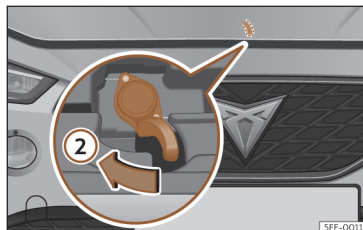

Fig. 217 Lever under the bonnet.
- To lift the bonnet, press towards the left on the lever located under the bonnet, in the centre >>> **Fig. 217** ②. The fastening hooks are unlocked.